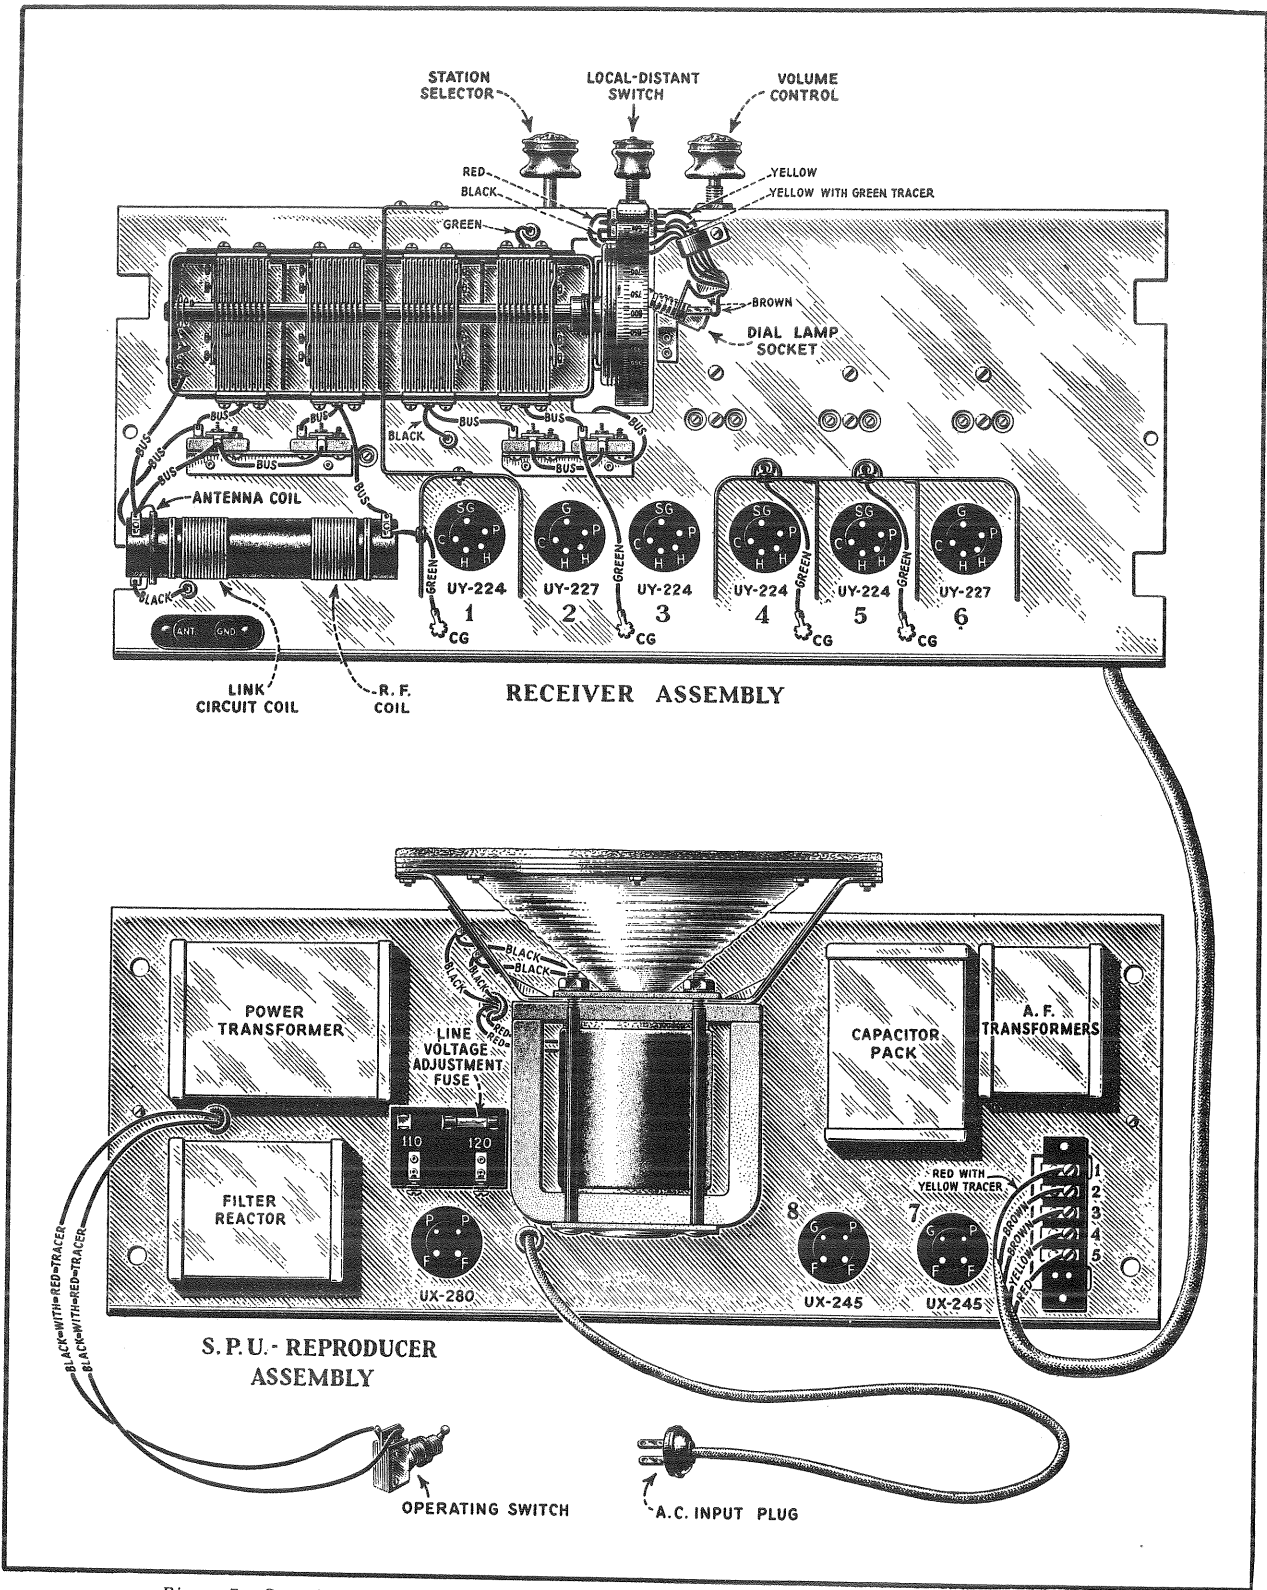

Figure 7—Complete layout of all assemblies and cable connections of Radiola 80 without tone contro
The Radiotrons should be placed in their correct sockets as shown in Figure 7. After placing the receiver in operation it is best to try interchanging the Radiotrons in the following manner so as to get the best results from a given set of tubes. Always turn the operating switch "off" before removing a tube.
- (a) Remove the cover over the fuse by loosening its retaining screw and lifting clear. Underneath the cover will be seen three fuse clips with a small cartridge fuse inserted between two of them. (See Figure 7). One outside clip is marked 110 and the other 120. In its original position the fuse is placed between the center one and the one marked 120.